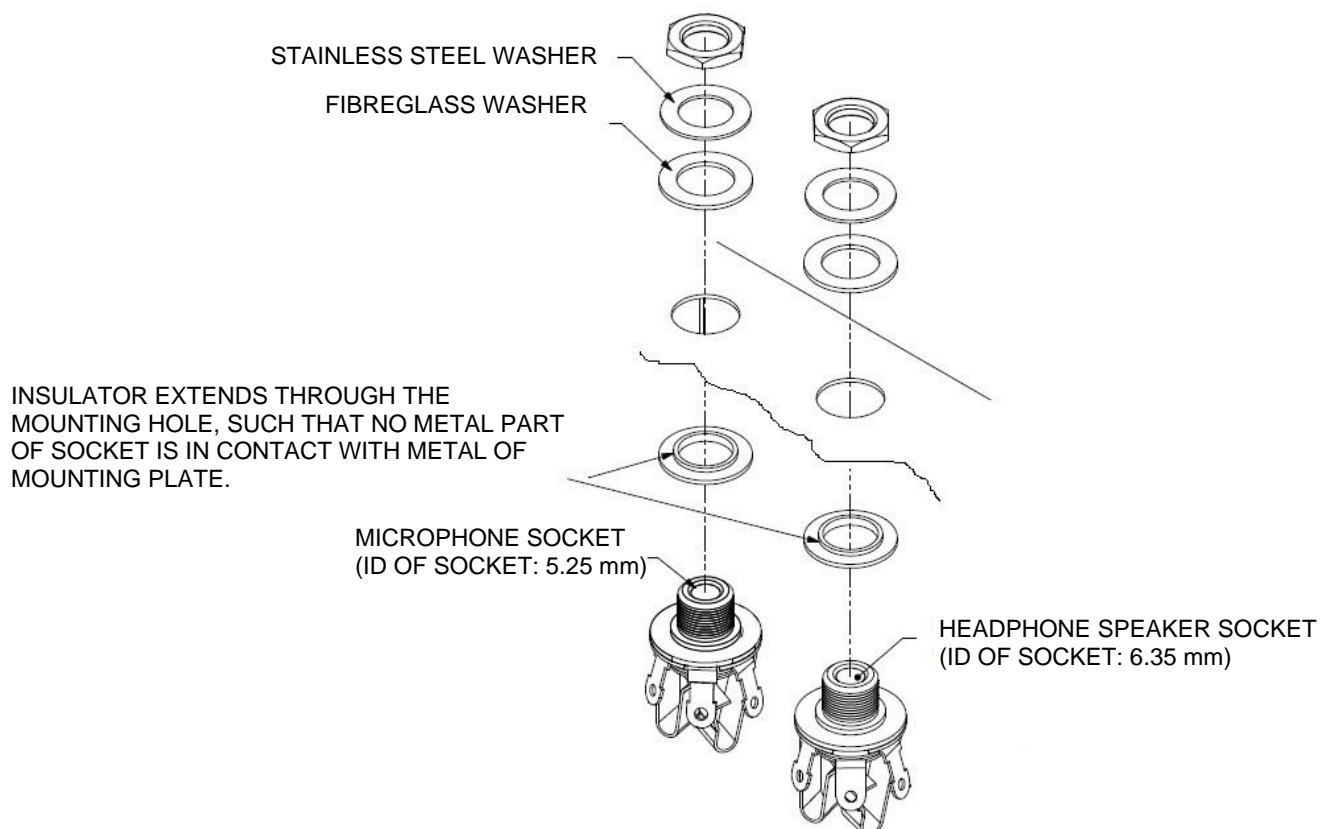

Figure 63: Headphone socket installation.
- Observe the correct washer / insulator placement (refer to Figure 63).